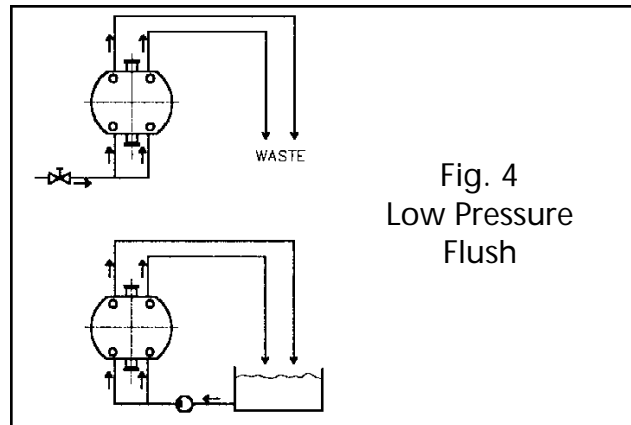

Fig. 4
- c) A low-pressure liquid flush (fig. 4), when:
- Plumbing should be as shown in the diagram (fig 4).